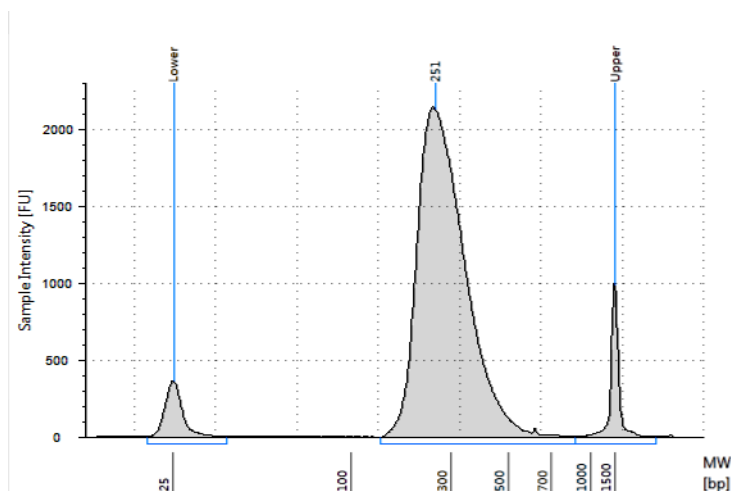

Figure 8 Analysis of amplified library DNA using a D1000 ScreenTape.
- 3 Verify that the electropherogram shows a distribution with a DNA fragment size peak of approximately 225 to 275 bp. Determine the concentration of the library DNA by integrating under the peak. A sample electropherogram is shown in Figure 8.